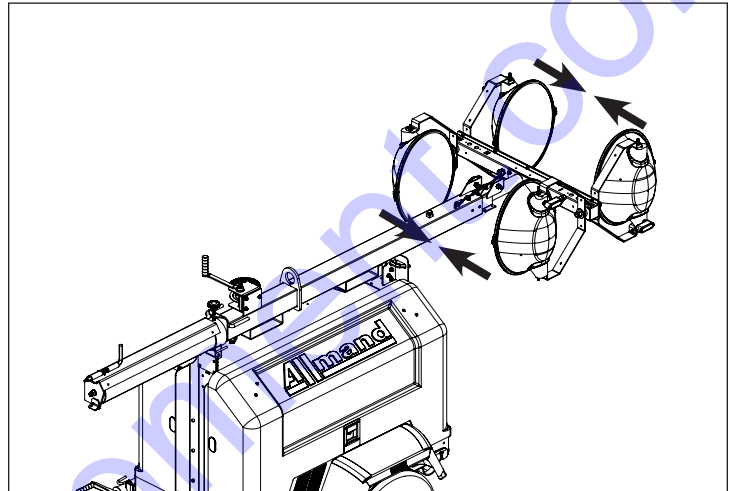

Figure 2
3. Reposition the light fixtures for trailering / transport by rotating the lamp yoke perpendicular to the light bar. Face the light fixtures toward the center of the trailer. See Figure 2.